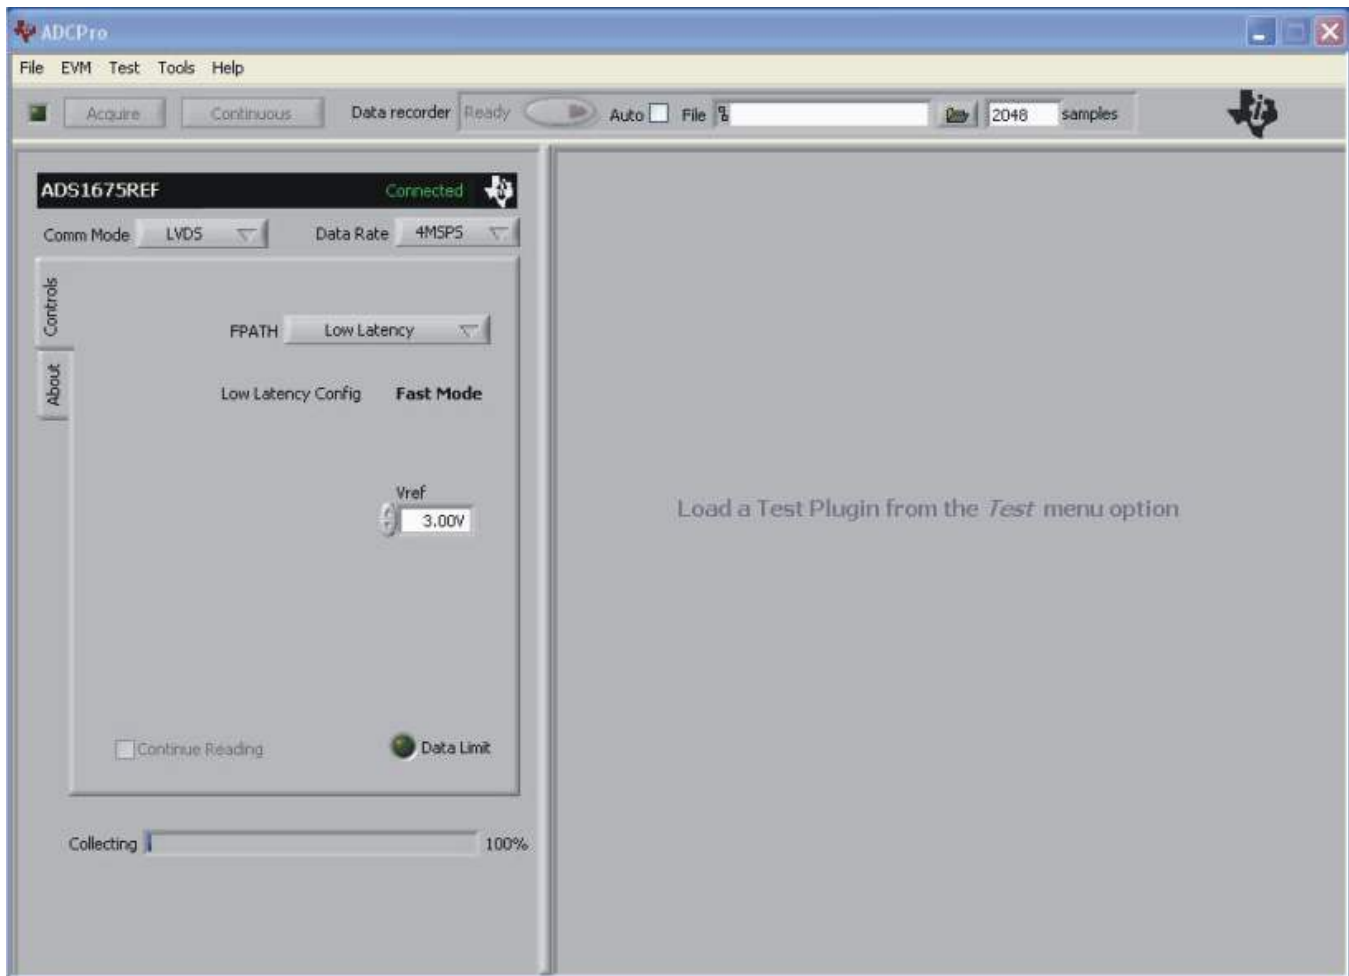

Figure 4. ADS1675REF Plug-in Display Window
Step 2. Select *ADS1675REF* from the REF drop-down menu. The ADS1675REF plug-in appears in the left pane, as shown in Figure 4.
The ADS1675REF plug-in for ADCPro provides complete control over all settings of the ADS1675. It consists of a tabbed interface (see Figure 4), with all of the functions available on the main tab. The controls on the main tab are described in this section.